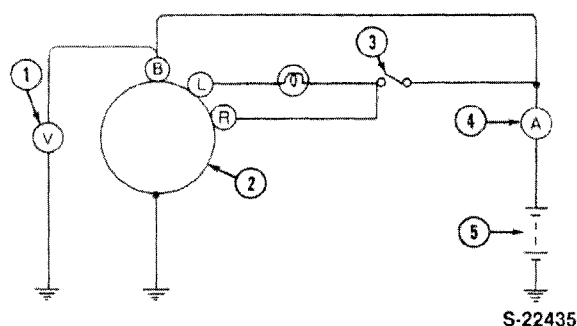

Figure 75
1. In case of equipment without an ammeter, connect a test ammeter (40A capacity) at the position shown in Figure 75.
CAUTION: In the case where the test ammeter is connected at the position shown in Figure 75, make sure that no starting current is applied to the ammeter when the engine is started.